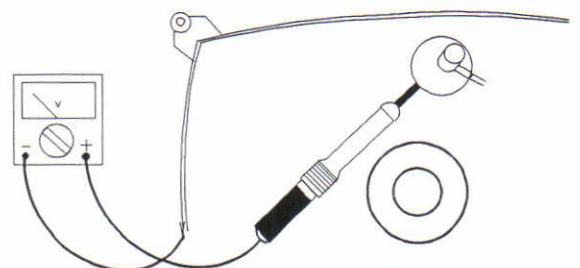

Fig. 3.1
2. In order to prevent damage to ICs and transistors, all high-voltage flashovers must be avoided. In order to prevent damage to the picture tube, it should be discharged using the method shown in Fig.3.1. Use a high-voltage probe and a multimeter (position DC-V). Discharge until the meter reading is 0V (after approx. 30s).